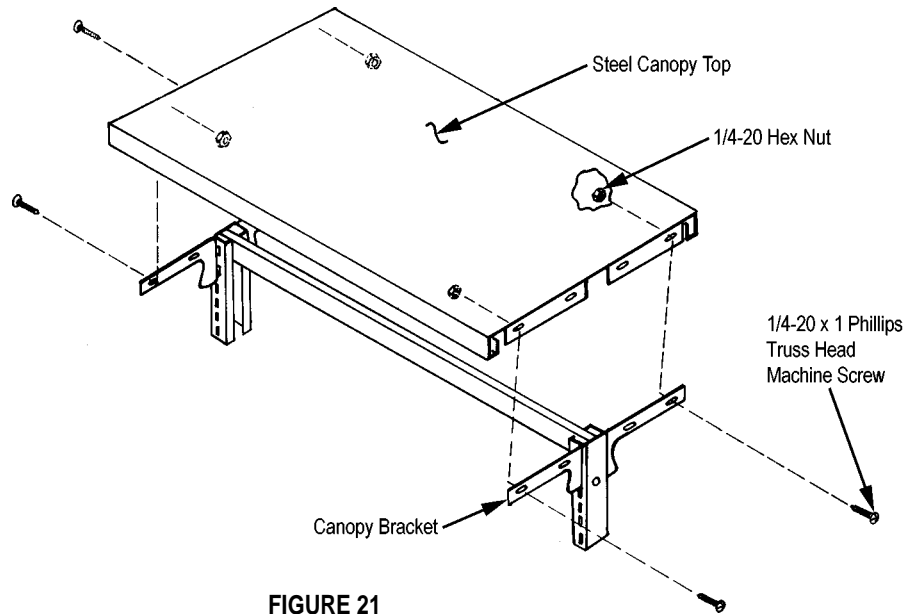

FIGURE 21
1. Install canopy brackets in the top slots of the frame uprights. See Figure 21.